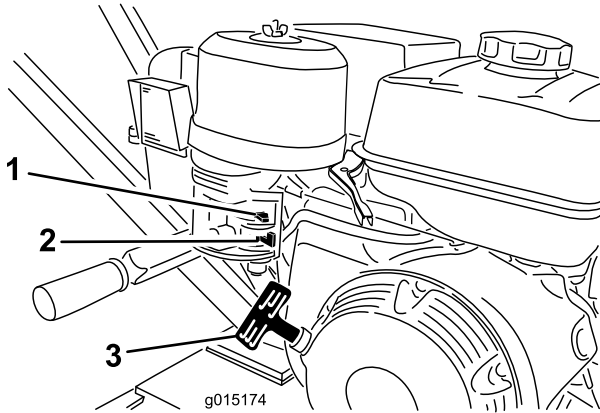

Figure 11
1. Move the fuel valve to the OPEN position, all the way to the right (Figure 11).
4. Pull the starter handle lightly until you feel resistance, then pull the handle briskly. Return the starter handle gently (Figure 11).